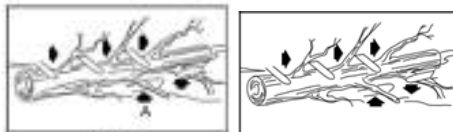

FIG. 3
- This operation consists of cutting the branches of felled trees. Note: Do not cut the branches that support the felled tree before cutting it in pieces. (Fig.3)